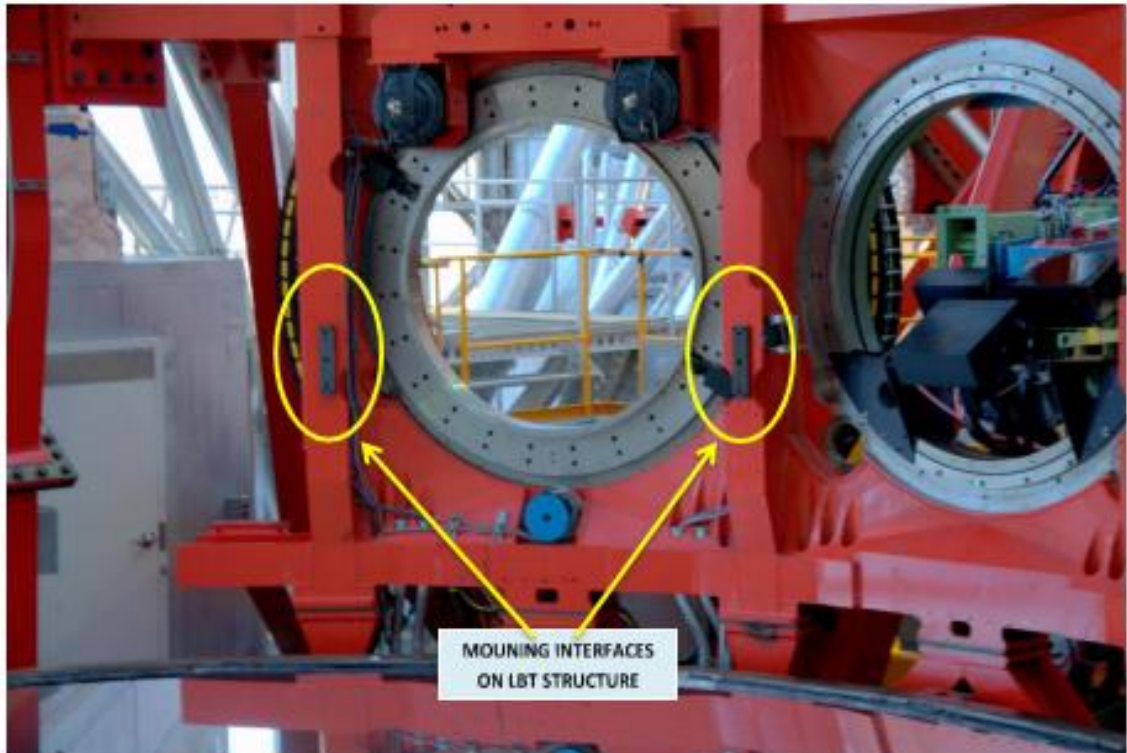

Figure 5. Picture of the rotator gallery pads installed on the SX side.
5. Rotator gallery interface pads: each side of the telescope is provided with 2x black pads, highlighted in Figure 5 where the dichroic mount is bolted to. The interface with the dichroic mount are 4x M18 captive screws fixed to the mount itself. 2x pins allow a precise placement of the mount when removed and reinstalled.